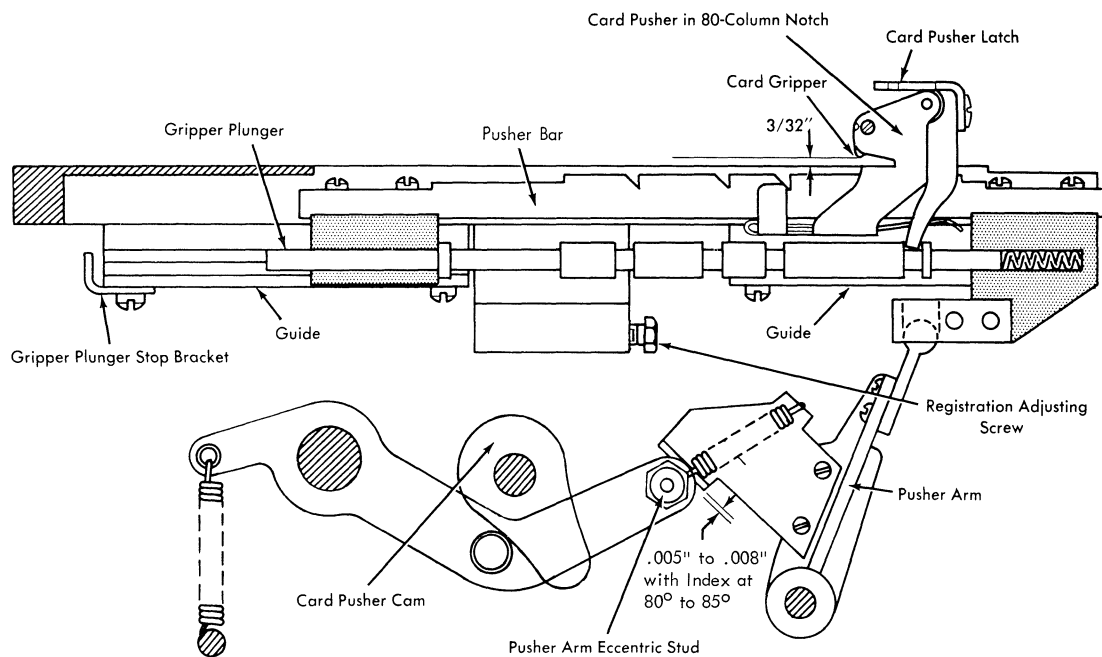

Figure 1-5. Card-Pusher Registration Assembly
Beneath the bar is the gripper plunger rod. When the pusher registers a card, the plunger is moved a short distance, causing the pusher to grip the card. Registration and the amount of gripping action are adjustable. They are not changed by the removal of the detail-station bed plate (Figure 1-5).
1. Adjust guides so that the pusher bar moves freely without excessive play (Figure 1-5).